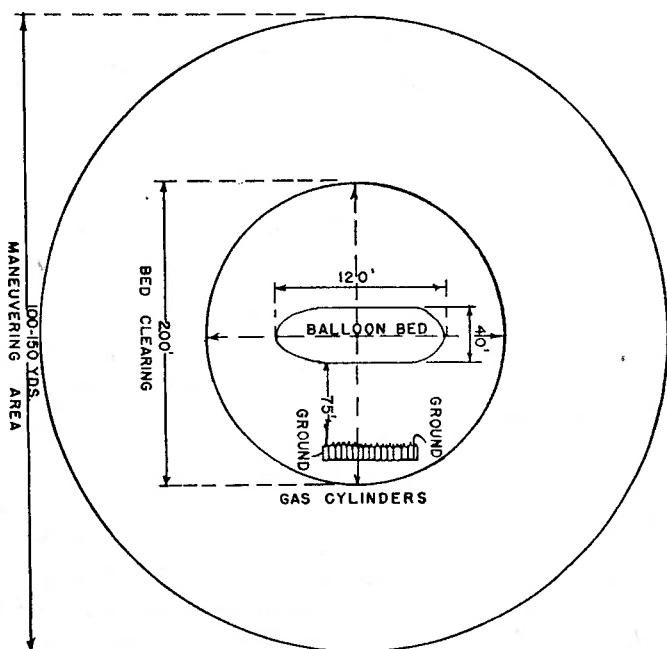

Figure 7.—Lay-out of balloon site.
b. It is desirable that a balloon site have an area at least 100 yards in diameter, and clear of all obstructions above the ground level which might damage the balloon. Within this larger area there is constructed a balloon bed, the dimensions of which will be determined by the type of bed to be constructed. The remaining area will be the maneuvering area. The ascension point will be located at the center of the cleared site. The bed may be located at any point on the site, but should be constructed so that the balloon may be maneuvered readily to the ascension point. For an outline of the lay-out of a site, see figure 7.